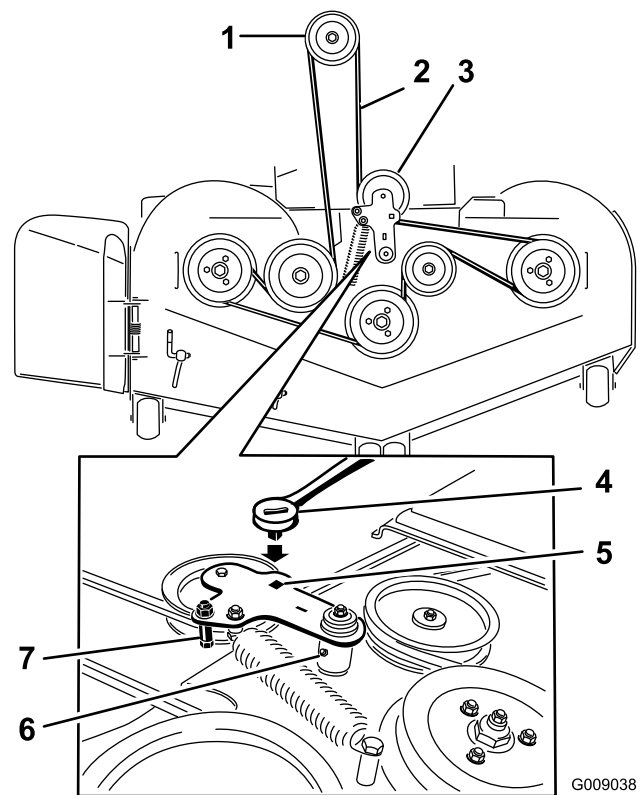

Figure 76
10. Install the belt guide on the idler arm shown in Figure 76.
11. Using the ratchet in the square hole, install the idler spring (Figure 76).
5. Use a ratchet in the square hole in the idler arm to remove tension on the idler spring (Figure 76).
7. Remove the belt guide on the spring loaded idler arm shown in Figure 76.
9. Install the new belt around the mower pulleys and the clutch pulley under the engine (Figure 76).